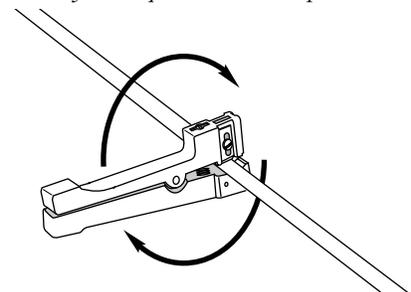

Figure 10
**5.1** This section describes how to use an Ideal coaxial cable stripper (see Figure 10) to score the buffer tube found in FREEDM/LST cable. Scoring the circumference of the tube will enable you to make a clean break in the tube with minimal risk to the fibers inside.
- Make enough turns with the cutter to *score* the buffer tube (Figure 10).